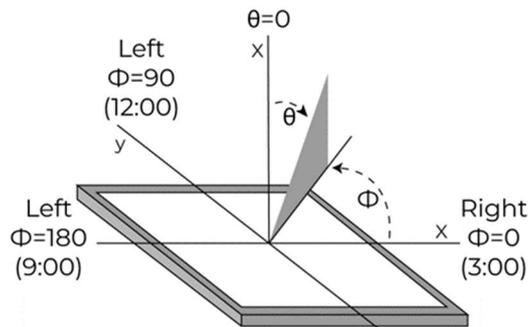

Figure 3. The definition of viewing angle
**Note 6.** For TFT module the contrast ratio is greater than 10. The angles are determined for the horizontal or x axis and the vertical or y axis with respect to the z axis which is normal to LCD surface. For more information see Figure 3.